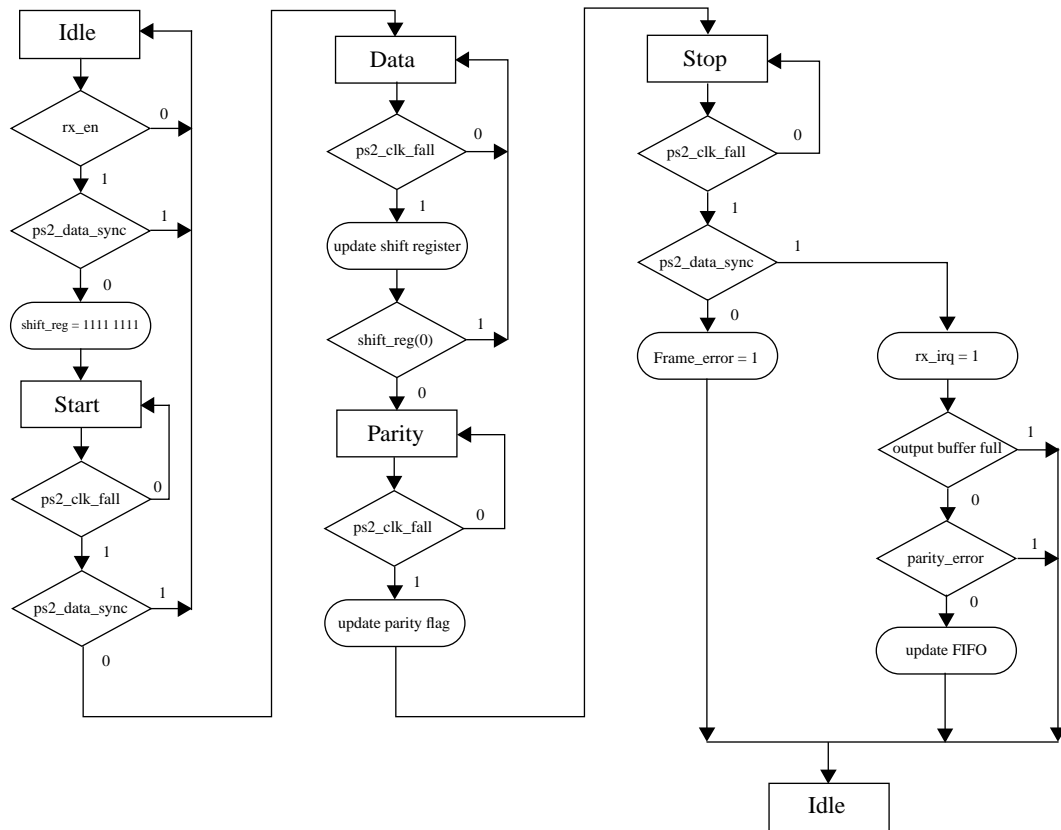

Figure 18. Flow chart for the receiver state machine
The receiver of APBPS2 receives the data from the keyboard or mouse, and converts it to 8-bit data frames to be read out via the APB bus. It is enabled through the receiver enable (RE) bit in the PS/2 control register. If a parity error or framing error occurs, the data frame will be discarded. Correctly received data will be transferred to a 16 byte FIFO. The data ready (DR) bit in the PS/2 status register will be set, and retained as long as the FIFO contains at least one data frame. When the FIFO is full, the receiver buffer full (RF) bit in the status register is set. The keyboard will be inhibited and buffer data until the FIFO gets read again. Interrupt is sent when a correct stop bit is received then it's up to the software to handle any resend operations if the parity bit is wrong. Figure 18 shows a flow chart for the operations of the receiver state machine.